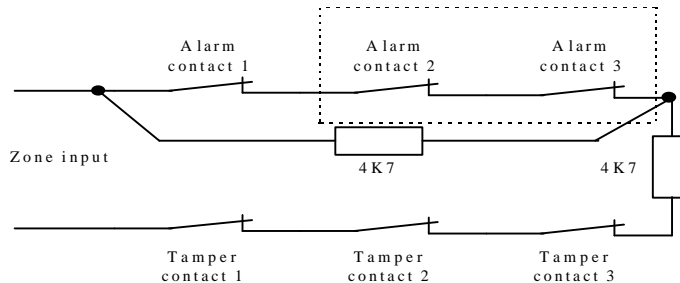

Figure 2. Joint connection of the alarm & tamper
**Dual loop:** The alarm and tamper are placed together in one zone. The zone has two end-loop resistors (4.7 kOhm) to differentiate between alarm and tamper. Figure 2 shows how they are connected. Program the 'zones' menu as 'Dual'.